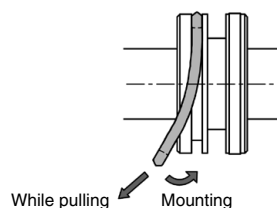

Fig. 5 Installation of piston seal
③⑧ Rod seal A: Mount the seal in the correct direction.
③⑤ Piston seal: Mount the seal while stretching it as Fig. 5.